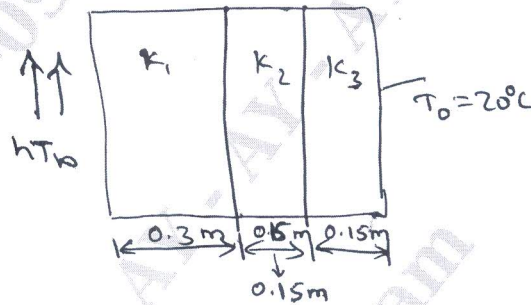

Fig.Q9
- 9 Solve for temperature distribution in the composite wall as shown in Fig.Q9, using 1 – D elements.